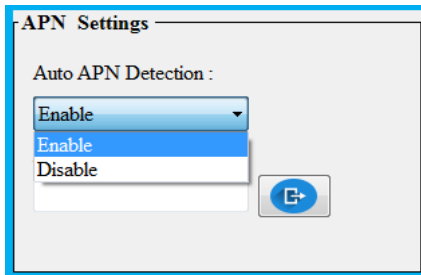

Figure 42
- These settings are used to set ACCESS POINT NAME. It can be set automatically or manually as shown in Figure 42.